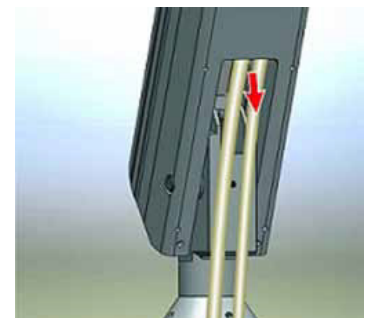

Figure 70
- Pull the extra length of cable and insert it through the outer cover of the vertical arm as shown in the Figure 69 & Figure 70 (First route the communication cable and then route the Inverter power cable).